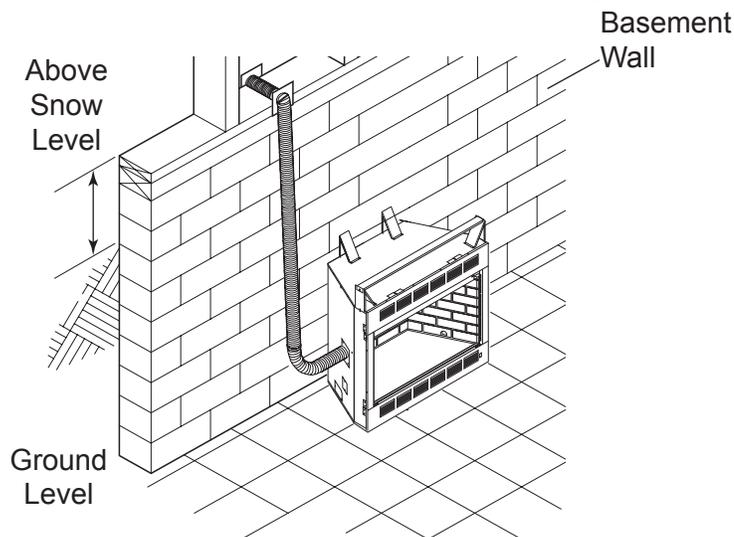

Figure 16 - Basement Installation
6. Avoid extremely long runs and numerous turns in the duct leading from the fireplace to the combustion air assembly. These conditions increase the resistance to the free flow of air through the duct. See Figures 16 through 19 for methods of installing the outside air for combustion assemblies.